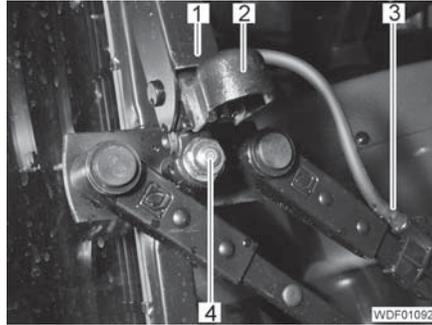

Fig. 371 Fixing the upper windshield wiper arm
- Pull off the hose (Fig. 371,3) of the windshield washer system.
- Fold away the cap (Fig. 371,2) on the fastening.
- Undo the nut (Fig. 371,4).
- Press the windshield wiper arm (Fig. 371,1) against the nut with a lever.
- Screw the nut (Fig. 371,4) onto the bolt and tighten it.
- Fold the cap (Fig. 371,2) over the nut.
- Attach the hose (Fig. 371,3) to the connection on the lower windshield wiper arms.